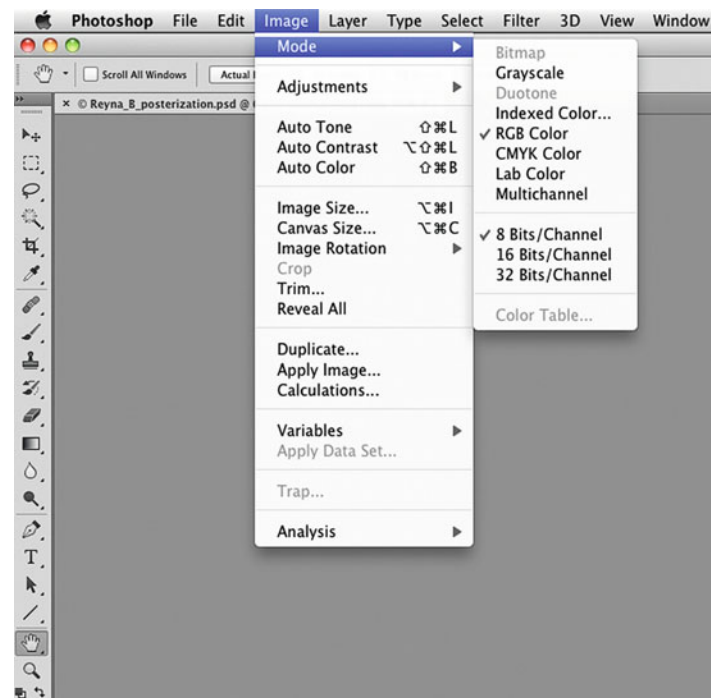

FIGURE 6.11 Image Mode changes from the menu bar in Photoshop, which are controlled by the Color Settings.
2. Conversion Options—This section of the **Color Settings** window is only revealed when you select **More Options** in the **Color Settings** window. When you perform a conversion of your image, from RGB to CMYK, for example, using Photoshop's menu bar, shown in Figure 6.11, the settings used for this conversion will be what you have set in the **Color Settings** window, including the specific color space and the conversion options. We will cover **Rendering Intent**, **Black Point**